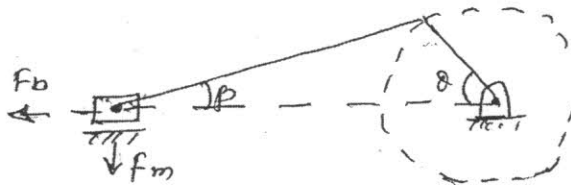

Fig. 2(b)
- b) The following data relate to a horizontal reciprocating engine shown in Fig. 2(b). Mass of reciprocating parts = 120kg, Crank length = 90mm, Engine speed = 600 rpm. Connecting rod mass 90kg length between centers = 450mm, distance of center of mass from big end centre = 180mm. Radius of gyration about an axis through centre of mass 150mm. Find the magnitude and the direction of the inertia torque on the crank shaft when the crank turned 30° from inner dead centre.